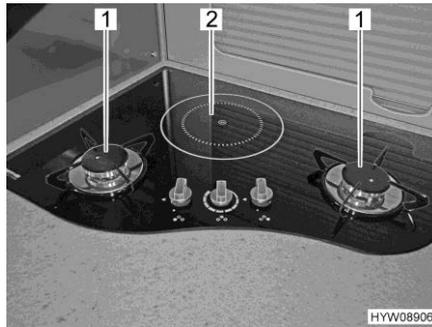

Fig. 181 Two-burner gas cooker with induction hob
The induction hob (Fig. 181,2) can only be used if the 230 V supply is connected.
**Ignition** The two gas burners (Fig. 181,1) have electronic ignition.